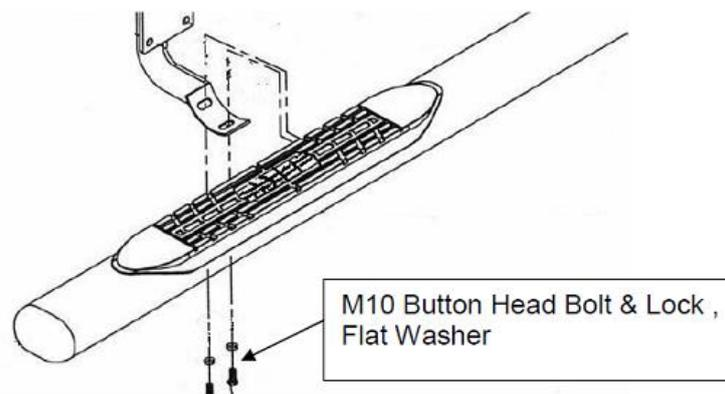

Figure 4. Installation View of Bracket & Bar
6. Assemble with M10 button head bolts and M10 washers. 2 bolts per bracket, 6 bolts per bar. See Figure 4.